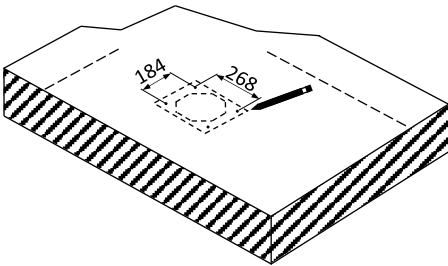

Fig 3
1. Mark on the ceiling where the ceiling bracket will be fixed (Fig 3).